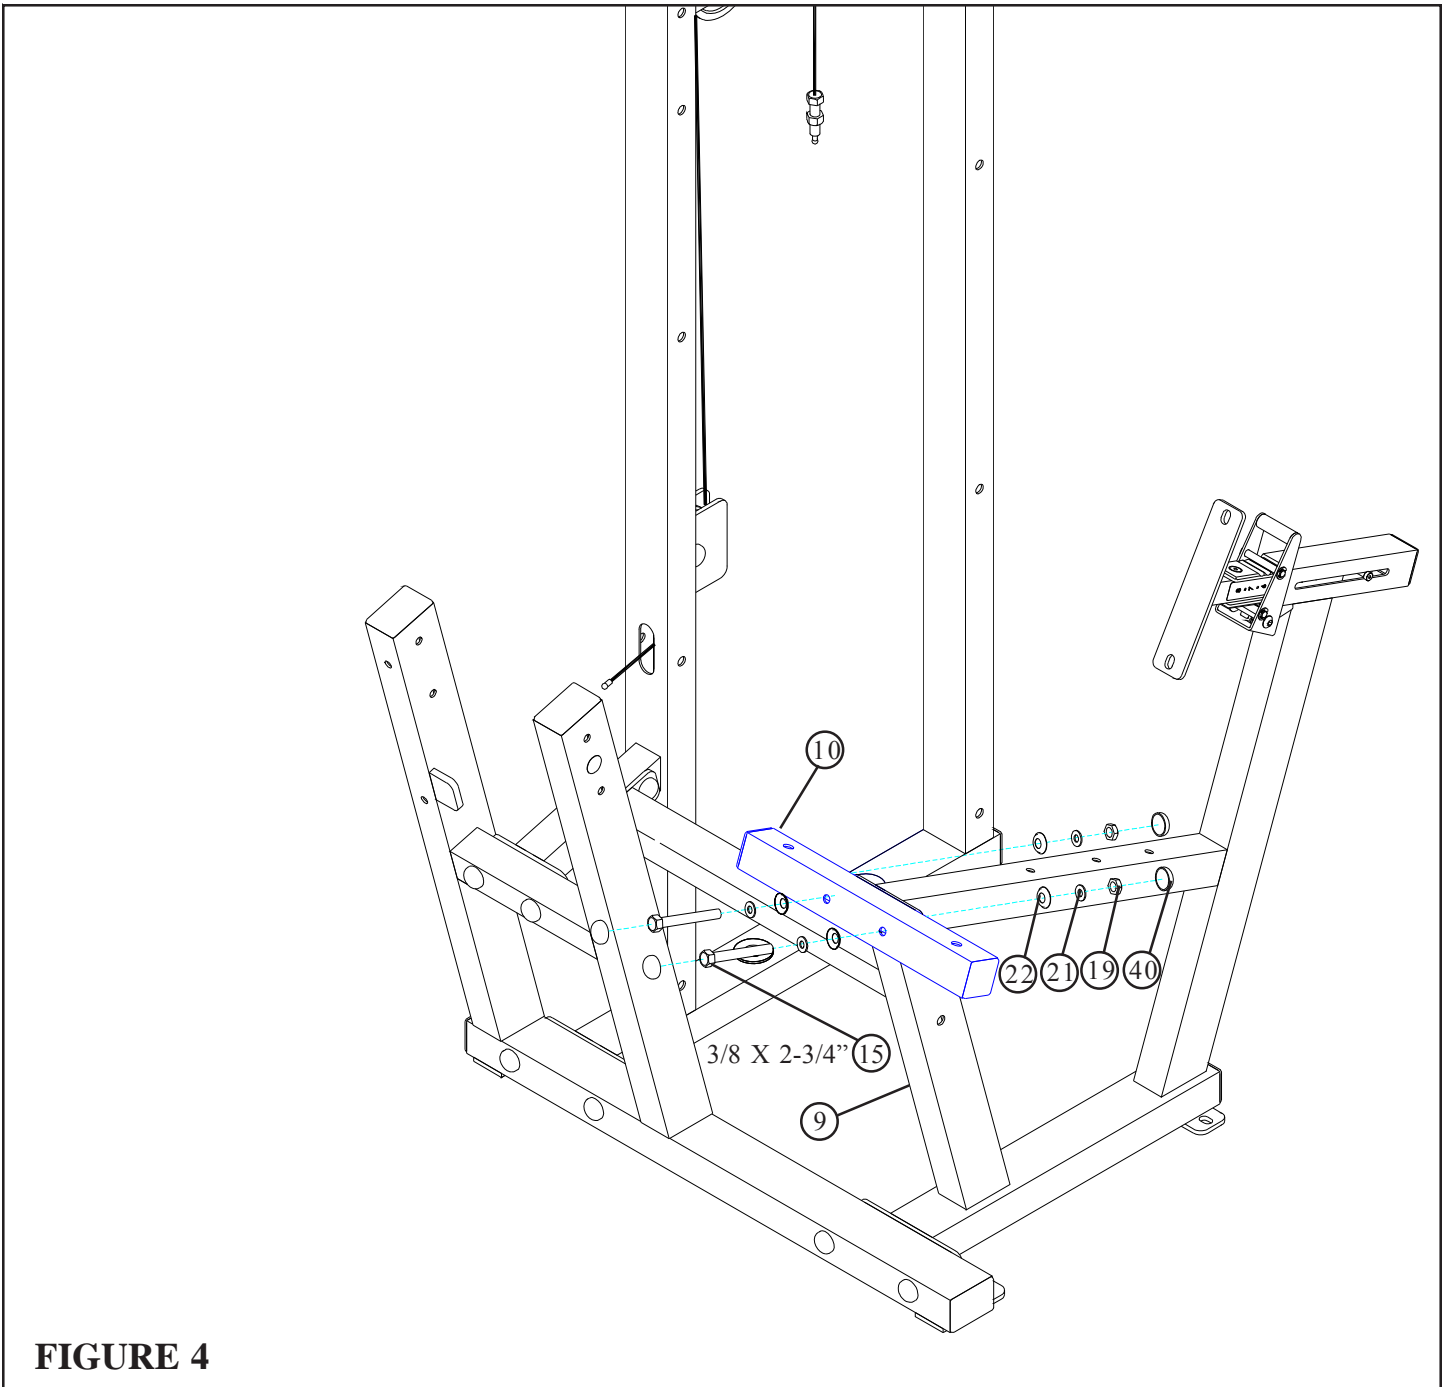

FIGURE 4
- **SECURELY** assemble the 16" TUBE (10) to the SEAT FRAME (9) using four RH CAPS (40), two 3/8 X 2-3/4" BOLTS (15), four 3/8" SAE WASHERS (21), four 3/8" RH WASHERS (22) and two 3/8" LOW HEIGHT LOCK NUTS (19) as shown in FIGURE 4.